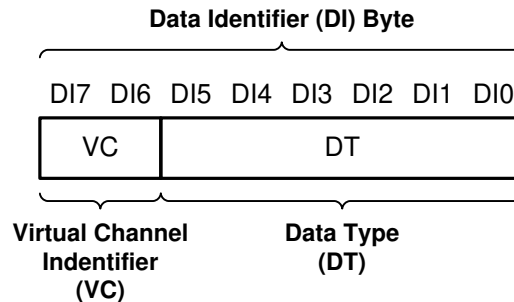

图 7-9. CSI-2 Data Identifier Structure
The TDES960 MIPI CSI-2 protocol interface transmits the data identifier byte containing the values for the virtual channel ID (VC) and data type (DT) for the application specific payload data, as shown in 图 7-9. The virtual channel ID is contained in the 2 MSBs of the data identifier byte and identify the data as directed to one of four virtual channels. The value of the data type is contained in the 6 LSBs of the data identifier byte. When partnered with the Tser953 serializer, the Data Type is passed through from the received CSI-2 packets. When partnered with a DVP Mode serializer, the received RAW mode data is converted to CSI-2 Tx packets with assigned data type and virtual channel ID.